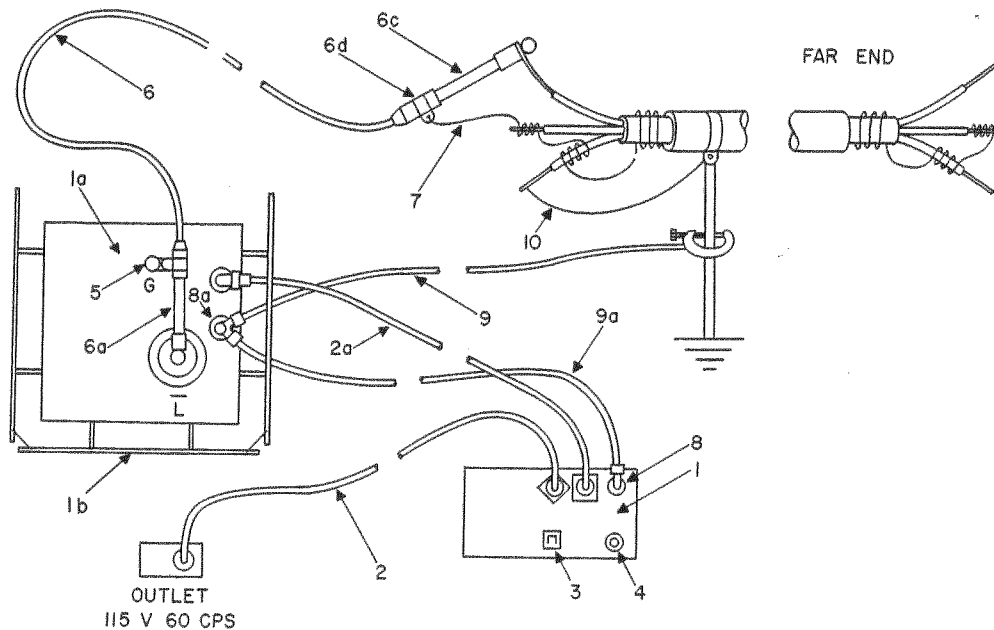

Fig. 6. Dielectric Test Sets 100 kv 22100 and 22100-1
The regulation characteristics of the 40 kv and 100 kv sets are shown in Figures 6 and 7 respectively. These charts were prepared for 115 volts input. They can be used as a quick means of estimating values of insulation resistance when kilovoltmeter and microammeter readings are known. For example, if the kilovoltmeter reads 30 kilovolts and the microammeter reads 600 microamperes, the insulation resistance is 50 megohms. This is found on the chart by locating the intersection of the horizontal and vertical lines representing the voltage and current. The diagonal line passing through the intersection represents the resistance. It will be noted that all lines of constant voltage are parallel to each other. This is also true for lines of constant current and constant resistance. This makes it easy to interpolate values on the chart.
e. A desirable test to prove the proper overall operation of the set is to check its voltage regulation under load. To make a one point check on the regulation curves given in Figure 6, a resistor of the proper voltage and wattage rating is connected between the high-voltage terminal and ground. For example, a 1 megohm resistor rated at 15 kv and 225 watts would, based on a 115 volt input and a voltage control setting of about 77, check the 15 milliamperes point on the chart in Figure 6.